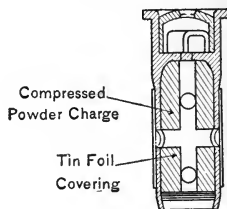

FIG. 97.
A. The Frankford Arsenal 110-grain igniting. (See No. 2, Fig. 97.)
A. Body, obturating-cup, vent-closing disc, primer charge, end-closing wad. (See No. 2, Fig. 97.)